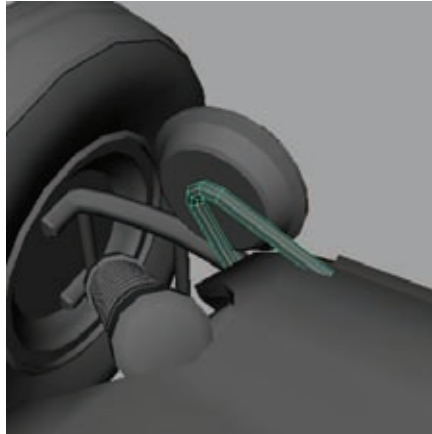

Figure 4.41
5. Position the headlight on the front end of the hood on either the left or right side. In the Front view, draw a rounded, upside-down, V-shaped curve to serve as a support anchor for the headlight. After extruding a pipe along it, you should have something like Figure 4.41.